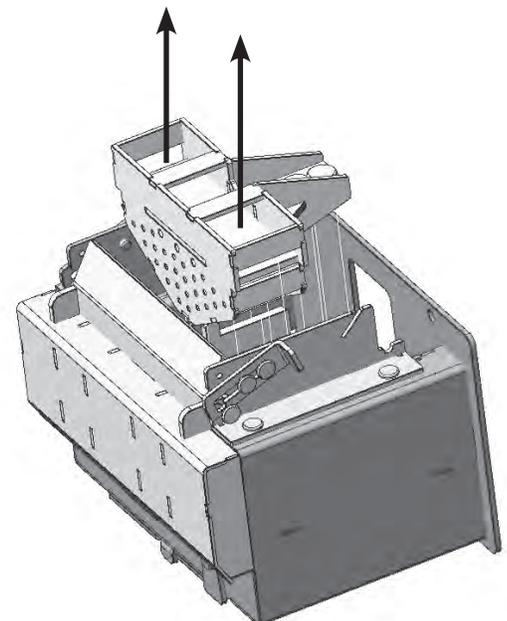

Figure 18
8. Lift Pusher Assembly up and out (Figure 18).